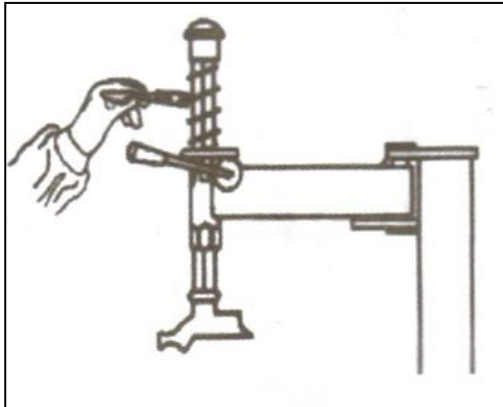

FIG13
- c) If there is tube, place it in the tire and plug the core. And assemble the lip according to the above mentioned step (FIG13).
- Use the diesel oil to clean the hexangular shaft (FIG13), Use the machine oil to lubricate.